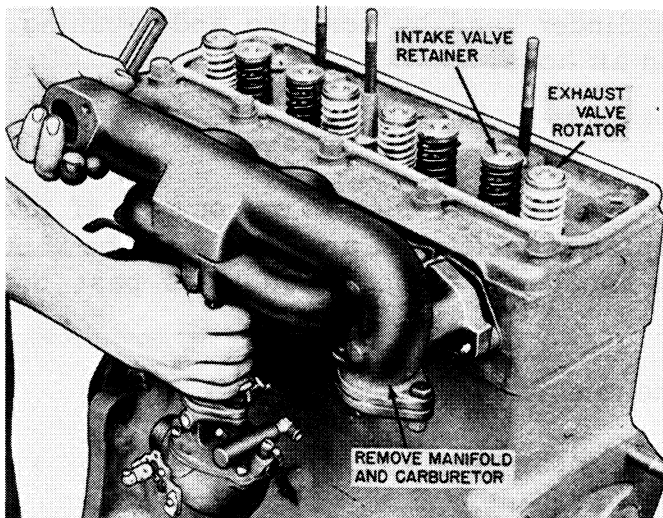

Figure 8 - Removing Manifold Assembly
2. Remove carburetor and manifold as a unit. Unless servicing of one of these assemblies is required, no further disassembly is necessary. Figure 8.